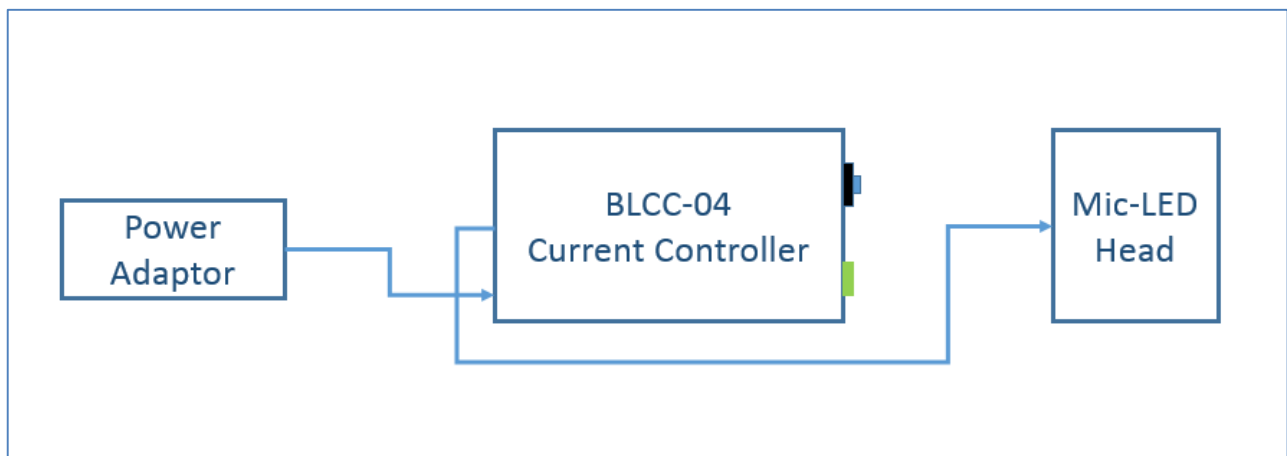

Fig 5: Mic-LED with BLCC-04 system connection diagram.
2. Connect the DC Current cord to the Mic-LED (circular 3-pin connector) and to the BLCC-04 LED connector on the back panel (9-Pin D-Type Connector) (See Fig. 5 below).